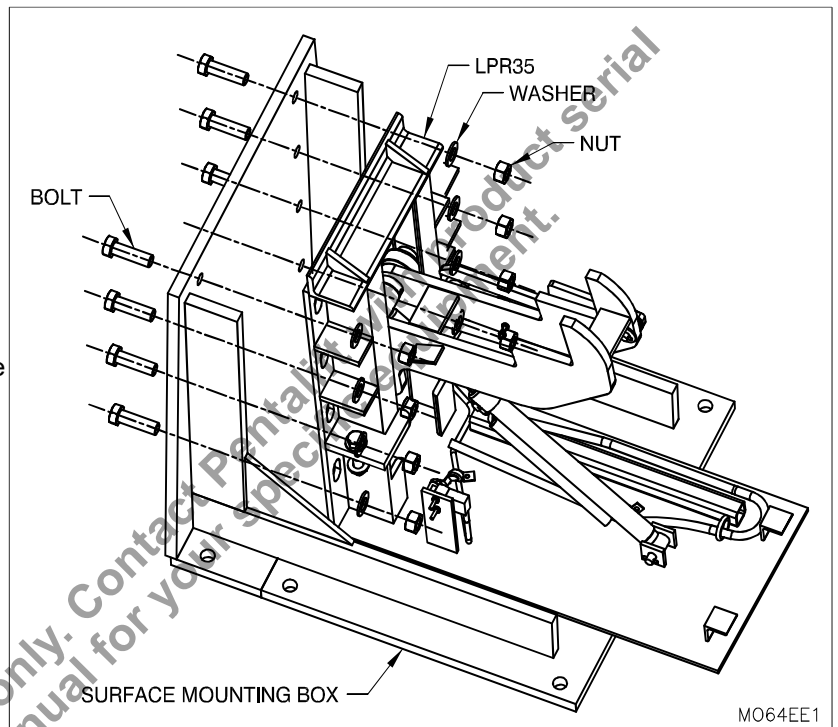

Figure 20: Horizontal Surface Mounting Box Installation
2. ___ Align the LPR35 with the surface mounting box and fasten using the supplied hardware, with the bolt at the rear of the surface mounting box, in the order as shown in "Figure 20: Horizontal Surface Mounting Box Installation" on page 23. Insert bolts from the back of the surface mounting box and torque each nut to a value of 266 ft-lbs.